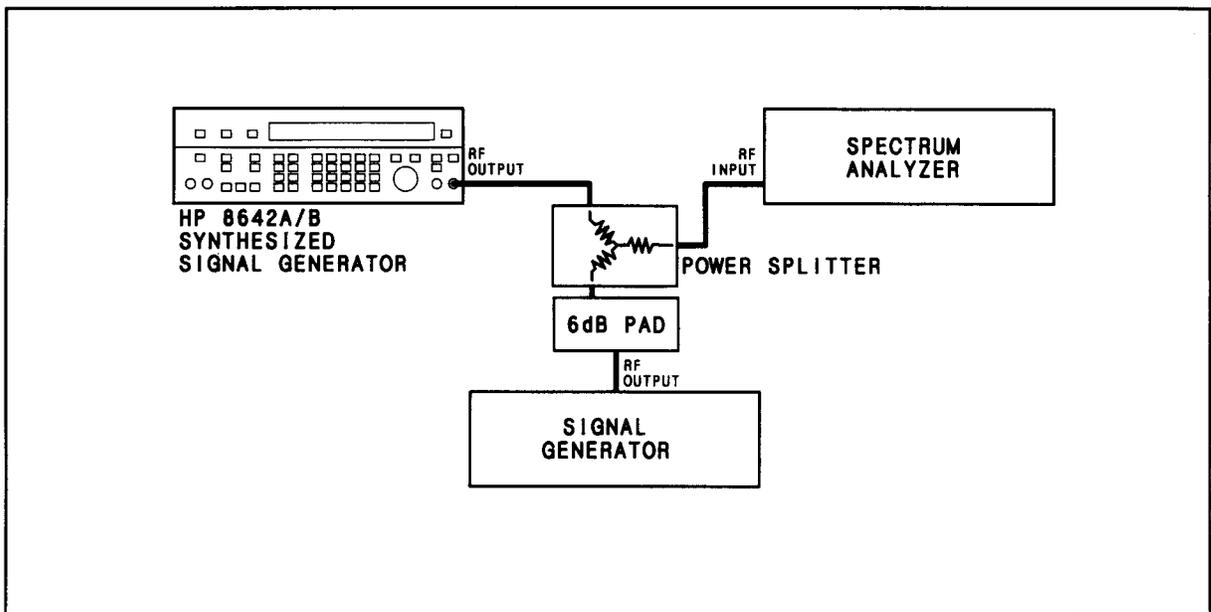

Figure 4-10. Intermodulation Test Setup
1. Connect the instruments as shown in Figure 4-10.